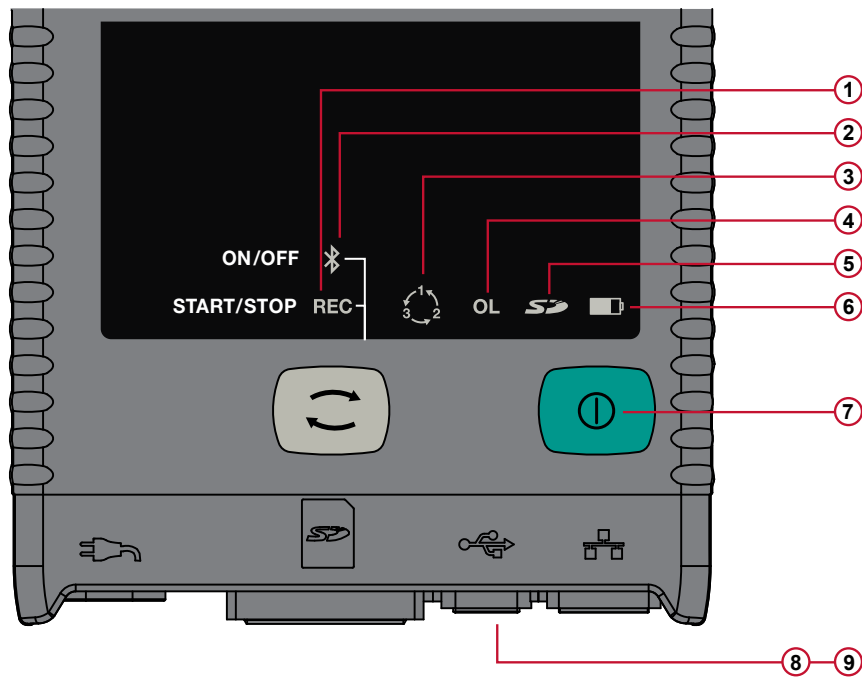

Figure 8
- ① Four voltage input terminals.
- ② Three current input terminals.
- ③ Rigid molded casing over-molded with thermo-adhesive rubber.
- ④ Digital LCD displaying measured, calculated and parameterizing quantities (see § 2.10).
- ⑤ Two (PEL 102) or Four (PEL 103) function buttons (see § 2.9).
- ⑥ Nine LEDs for status information (see § 2.11).
- ⑦ Anti-theft Kensington Security Slot (see § 2.8)
- ⑧ Connections for USB, Ethernet, SD memory card and terminal cover caps.
- ⑨ Standard (IEC C7 figure 8 terminal – non polarized) power connector for 110/250VAC power source.
The Yellow/Red LED (see #6 Figure 8) is used to indicate the status of the battery.
- The **GREEN REC LED** (see #1 Figure 8) will light up for 3 s, followed by the lighting of the **BLUE BLUETOOTH LED** (see #2 Figure 8) for 3s - one after another. During the time the LED is lit you will be able to control their respective function as described below.